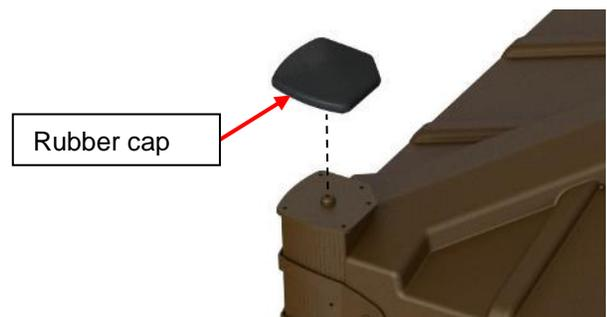

Figure 78
- 8) Install the rubber caps on all four posts. These caps are in the parts box and help protect the post assembly tops from weathering. (Figure 78)